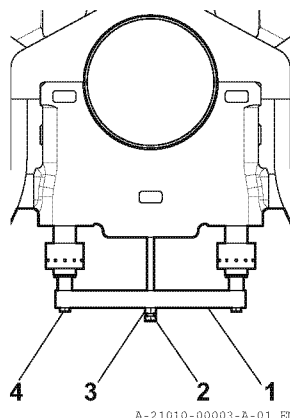

Fig.1 Installing the drawing-out tool
7. Lock the body 1 of the drawing-out tool with the bolt 4 to the main bearing cap bolt. (Refer to Fig. 1.)